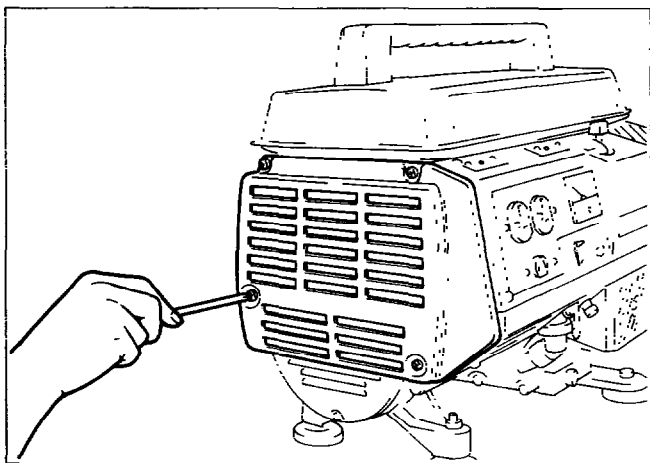

Fig. 10-1
| 1. | Side cover | (1) Remove the side cover by unscrewing four M5 × 8 screws. (See Fig. 10-1.) | | (+) Plus screw driver |